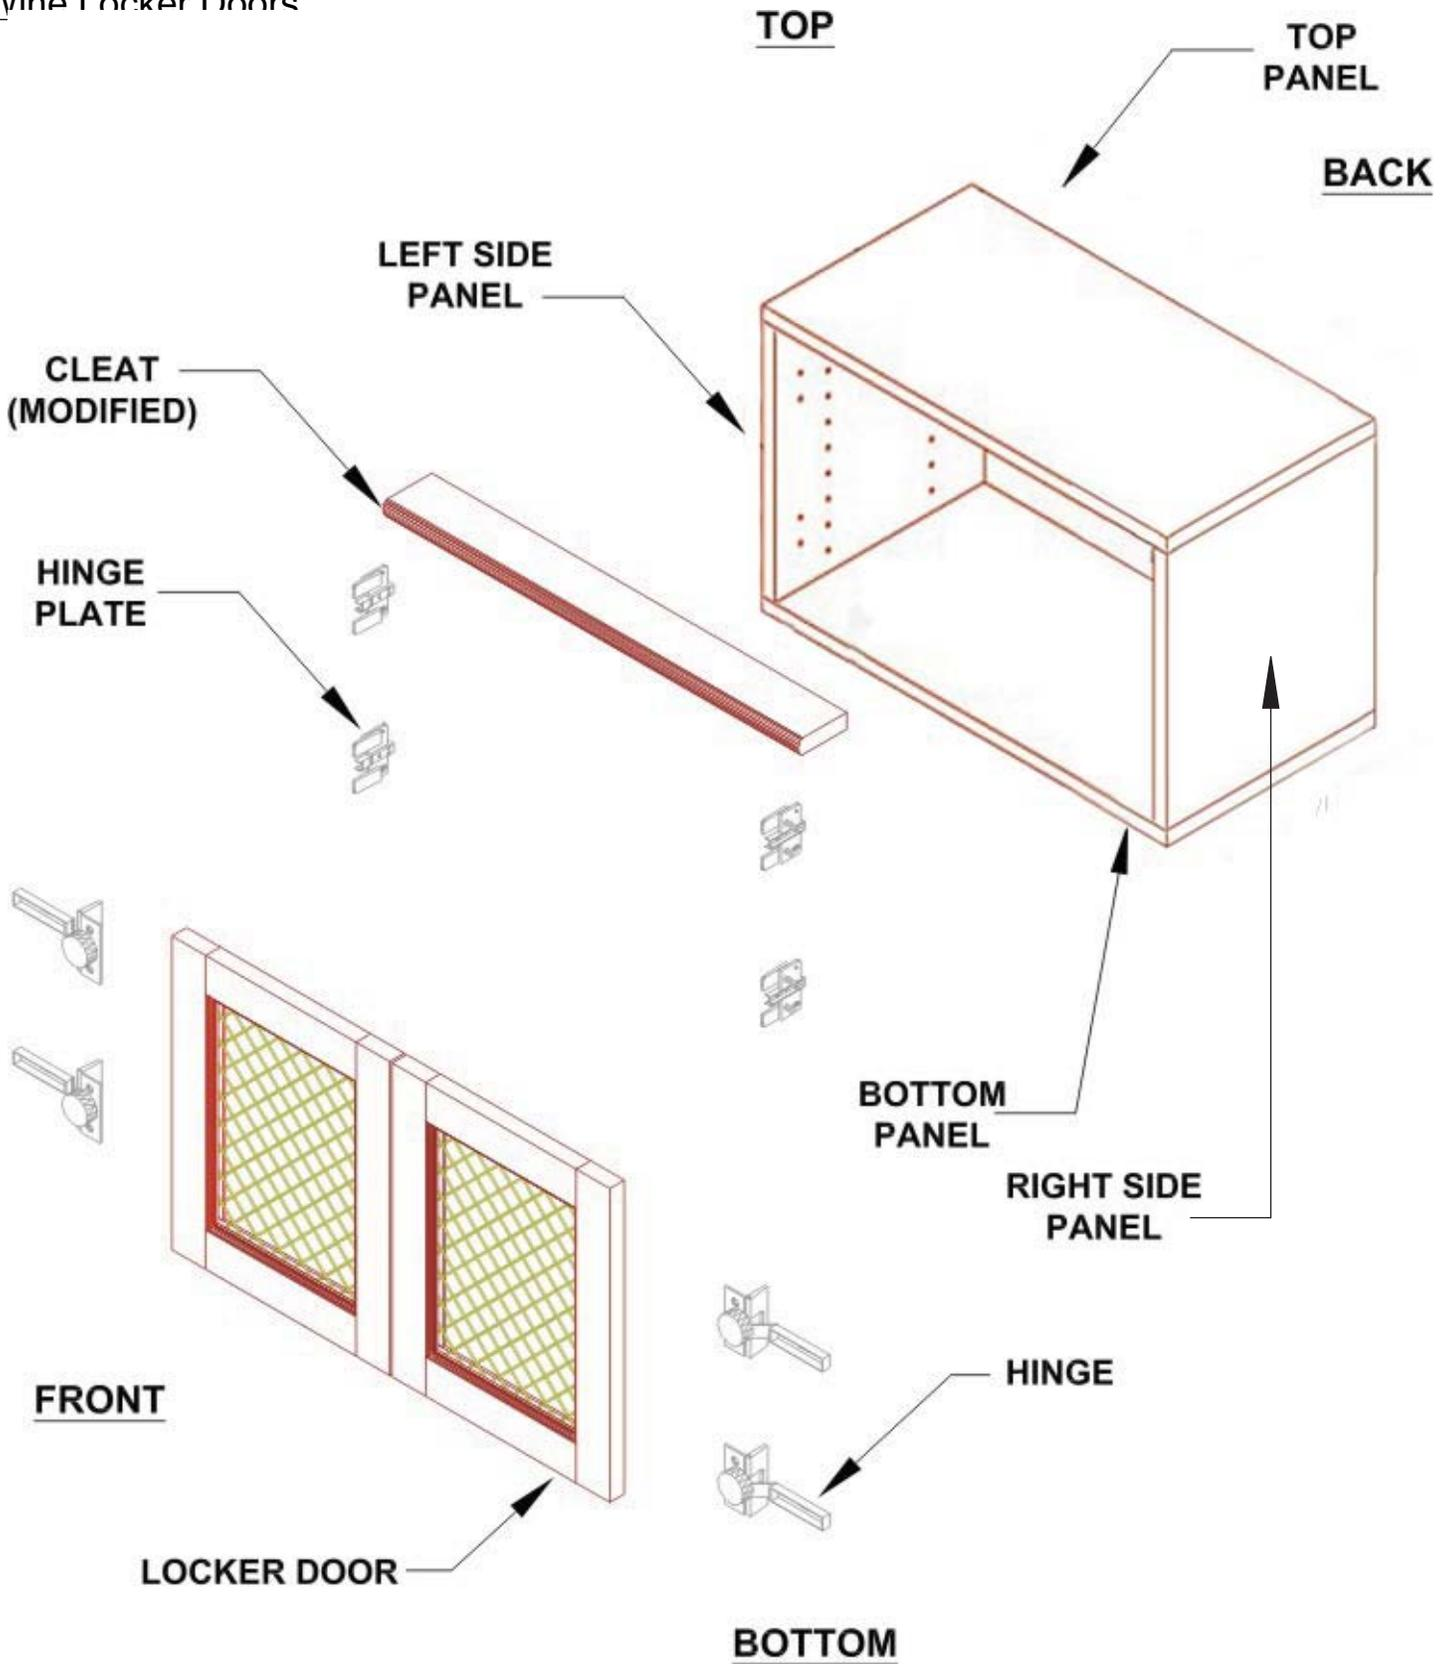

**Figure 8**
8. Locate your shelf pins and insert them into the holes in the frame where you would like your shelf to be (**Figure 8**).